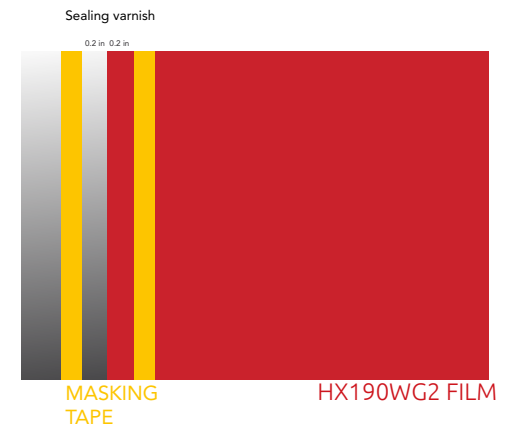

Figure 26
- 1 to HX190WG2 at 5 mm (0.2 in.) from its edge. (FIG. 26)